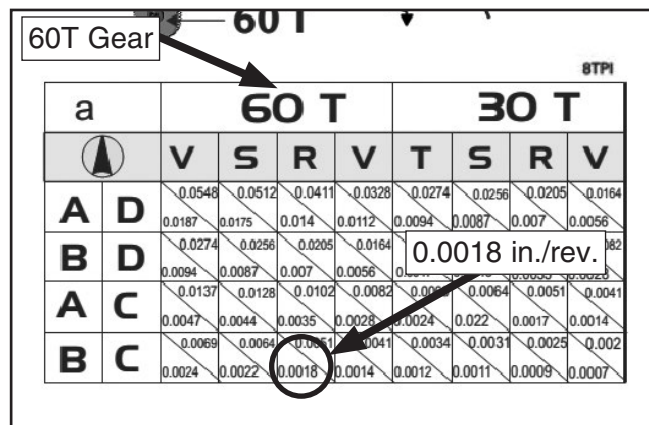

Figure 72. 0.0018 in./rev. location on feed chart.
1. Locate the box on the feed rate chart that lists 0.0018 in./rev., as shown in **Figure 72**.